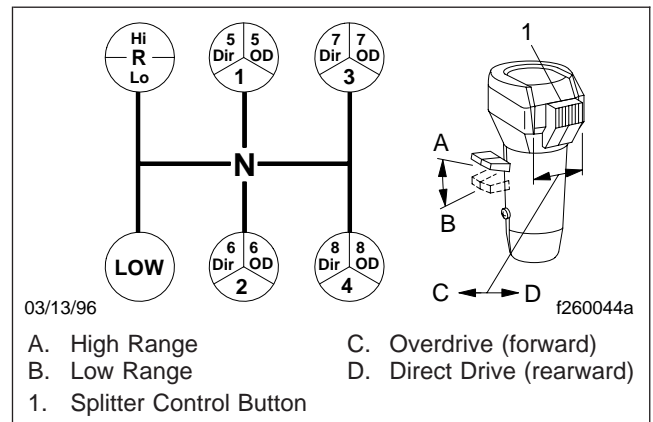
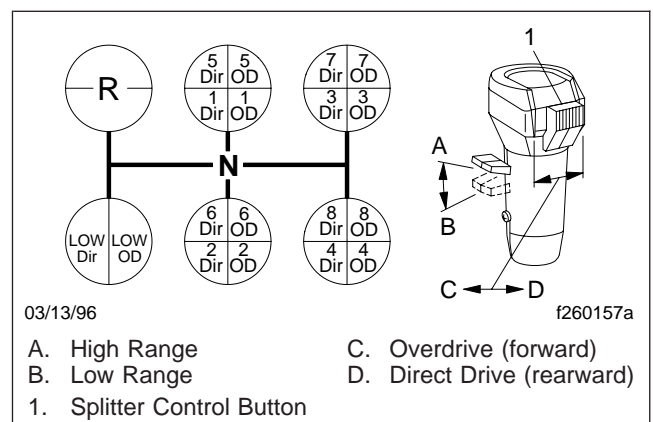

Fig. 8.17, Eaton Fuller 13-Speed Transmission Shift Pattern
Fig. 8.18, Eaton Fuller 18-Speed Transmission Shift Pattern
Eaton Fuller 13-speed transmissions have thirteen forward speeds and two reverse speeds. Each transmission has a 5-speed front section, and a 3-speed auxiliary section. The auxiliary section contains low- and high-range ratios, plus an overdrive splitter gear. See **Fig. 8.17** for the shift pattern.
Eaton Fuller 18-speed transmissions have eighteen forward speeds and four reverse, consisting of a 5-speed front section and a 3-speed auxiliary section. The auxiliary section contains low and high range ratios, plus an overdrive splitter gear. See **Fig. 8.18** for the shift pattern.
2. Position the range preselection lever down, into low range. See Fig. 8.17 for 13-speed transmissions and Fig. 8.18 for 18-speed transmissions.
To shift from low direct to low overdrive, move the splitter control button (Fig. 8.18) into the overdrive (forward) position, then immediately
Shift upward from low to 1st gear, 2nd, etc. until 4th gear, double-clutching between shifts, and accelerating to 80 percent of engine governed speed. See **Fig. 8.17**.
Shift upward from low overdrive to 1st direct by first moving the splitter control button into the direct (rearward) position (**Fig. 8.18**). Move the shift lever, double-clutching, to the 1st gear position.
To shift from 5th direct to 5th overdrive, move the splitter control button (**Fig. 8.17**) into the overdrive (forward) position, then immediately release
To shift from 5th direct to 5th overdrive, move the splitter control button (**Fig. 8.18**) into the overdrive (forward) position, then immediately release the accelerator. Press and release the clutch pedal. After releasing the clutch, accelerate again.